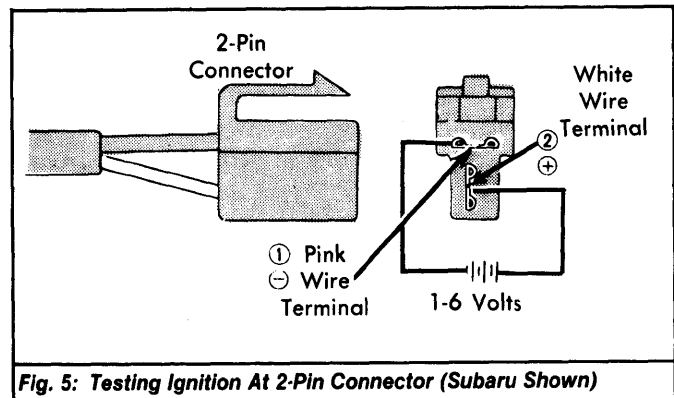

Fig. 5: Testing Ignition At 2-Pin Connector (Subaru Shown)
7) Disconnect 2-pin connector. Disconnect high tension wire at distributor and hold it about 1/4" (6 mm) from engine block. Turn ignition on. Check if spark jumps when a small voltage (1-6 volts) is applied intermittently on terminals No. 1 and 2 on ignitor side of 2-pin connector. See Fig. 5. If spark jumps gap, there is no problem with the ignition system. If no spark occurs, replace ignitor.